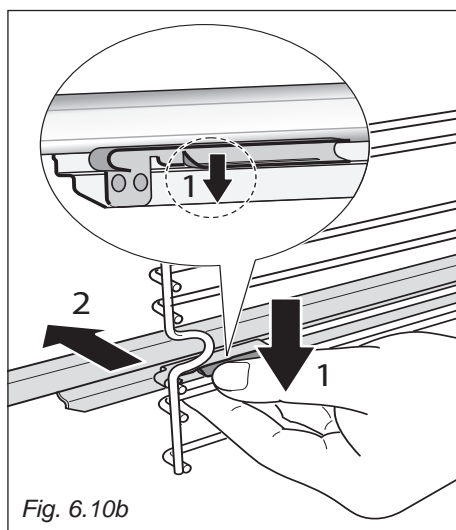

Fig. 6.10b
- Find the safety locks. These are the tabs that clip over the wire of the side rack (arrow “1” in fig. 6.10b).
- Pull the safety locks away from the wire to release the wire (arrow “2” in fig. 6.10b).